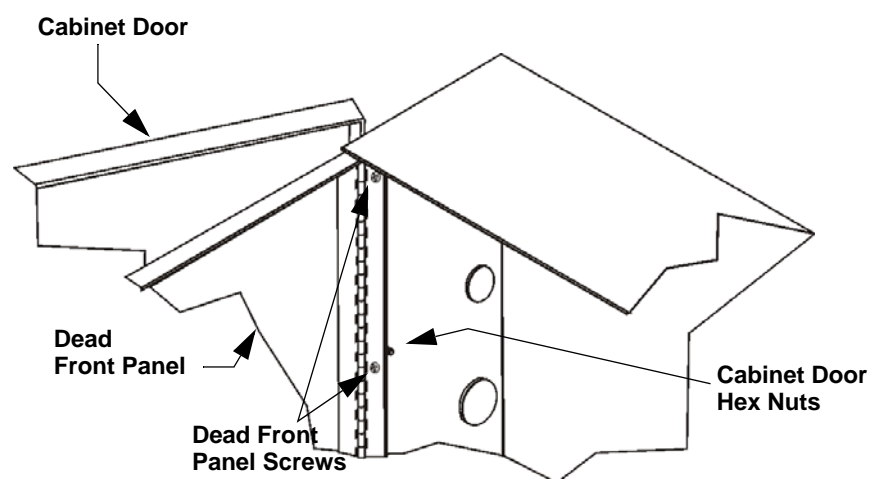

Figure 3-5 Cabinet Door and Dead Front Panel Removal
3. Using a Phillips head screw driver, remove the six screws that hold the dead front panel in place. See Figure 3-5.
4. Using a 1/4" hex drive, remove the six hex nuts that hold the cabinet door in place. See Figure 3-5.